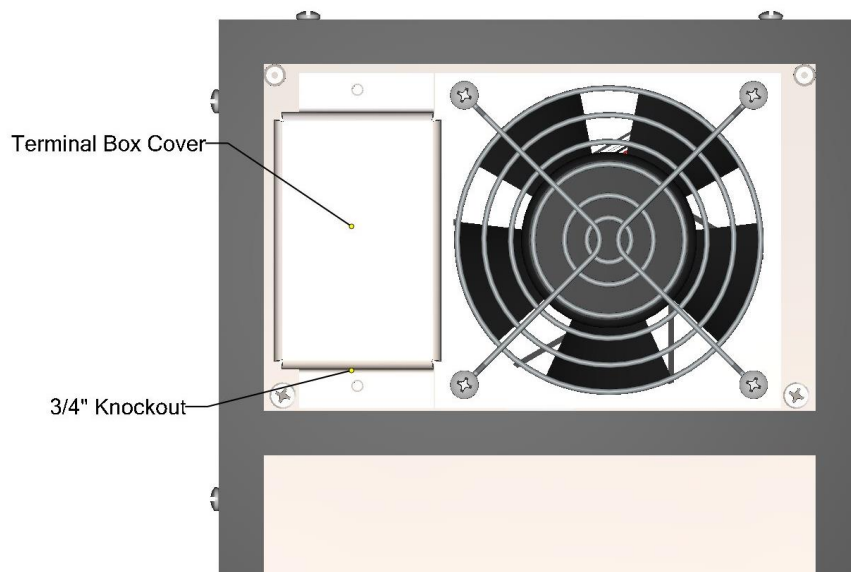

Figure 3: Terminal Cover
3. Remove the (2) terminal box cover screws and remove the cover. (See Figure 3: Terminal Cover). The terminal block will be used for power. (See Figure 4: Terminal Block)
4. Remove Dome Plug and route power cable through the 0.875" (22.23mm) hole. (See Figure 3: Terminal) Use an approved strain relief to secure wires.